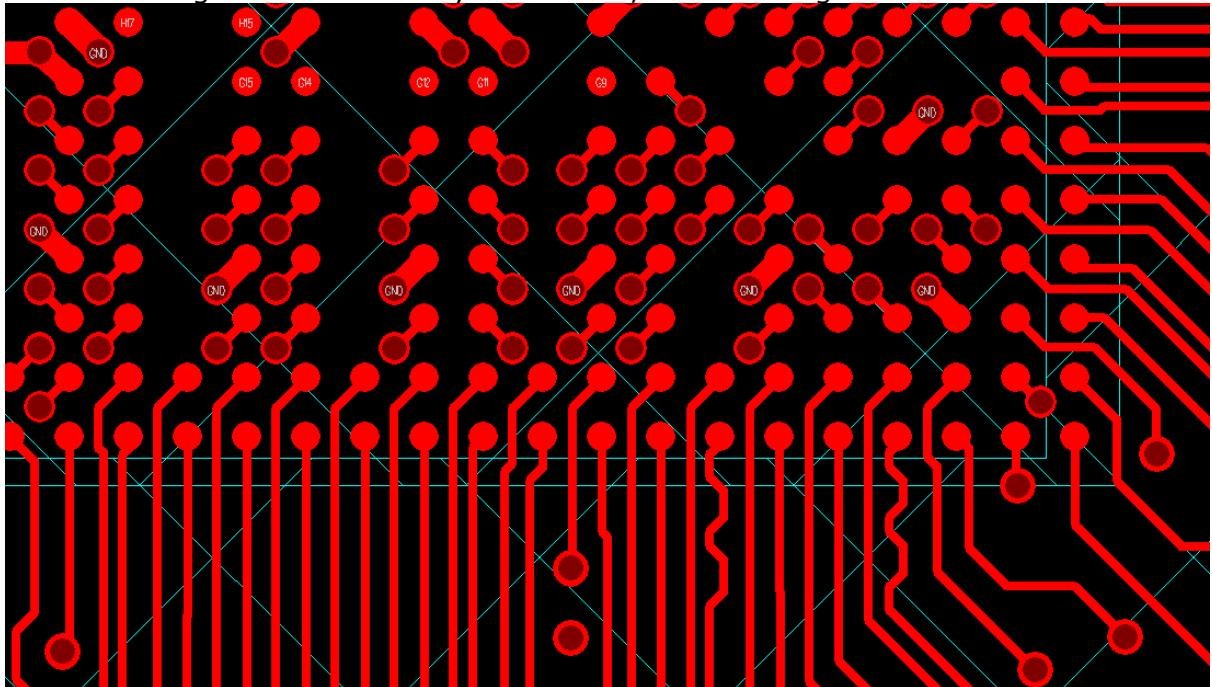

Figure 3-4
- CPU pin signal fan out and punch vias, then the vias should be regularly arranged and reasonably distributed, shown as Figure 3-4.